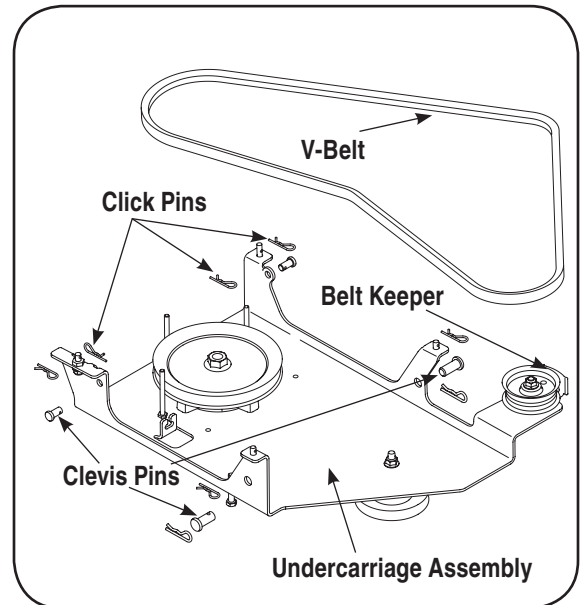

Figure 12
1. Remove and retain the four hairpin clips from the weld pins found the top side of the undercarriage assembly, and also the 4 clevis pins with hairpin clips. Retain this hardware for later installation. See Figure 12.